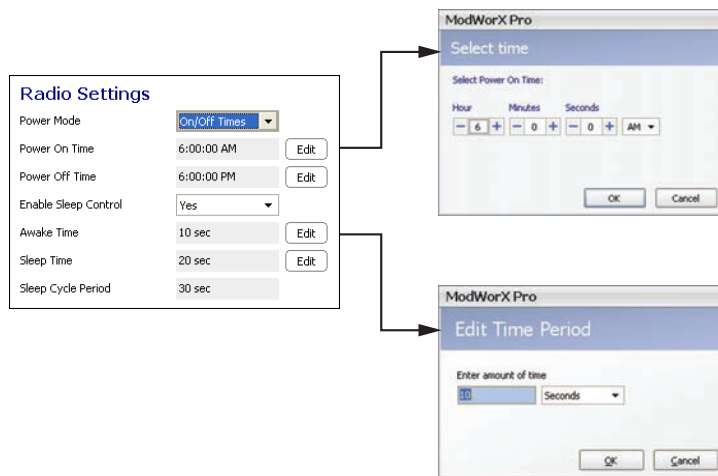

Figure 3.13
- a. Click the **Edit** button next to the Power On Time field and enter the time of day when power is to be supplied to the radio, using the “plus” and “minus” buttons shown in Figure 3.13, page 33. Click **OK**.
- a. Click the **Edit** button next to the Awake Time field and enter the period of time that the radio is to be awake during each sleep cycle period using the Edit Time Period dialog shown in Figure 3.13, page 33. Click **OK**.